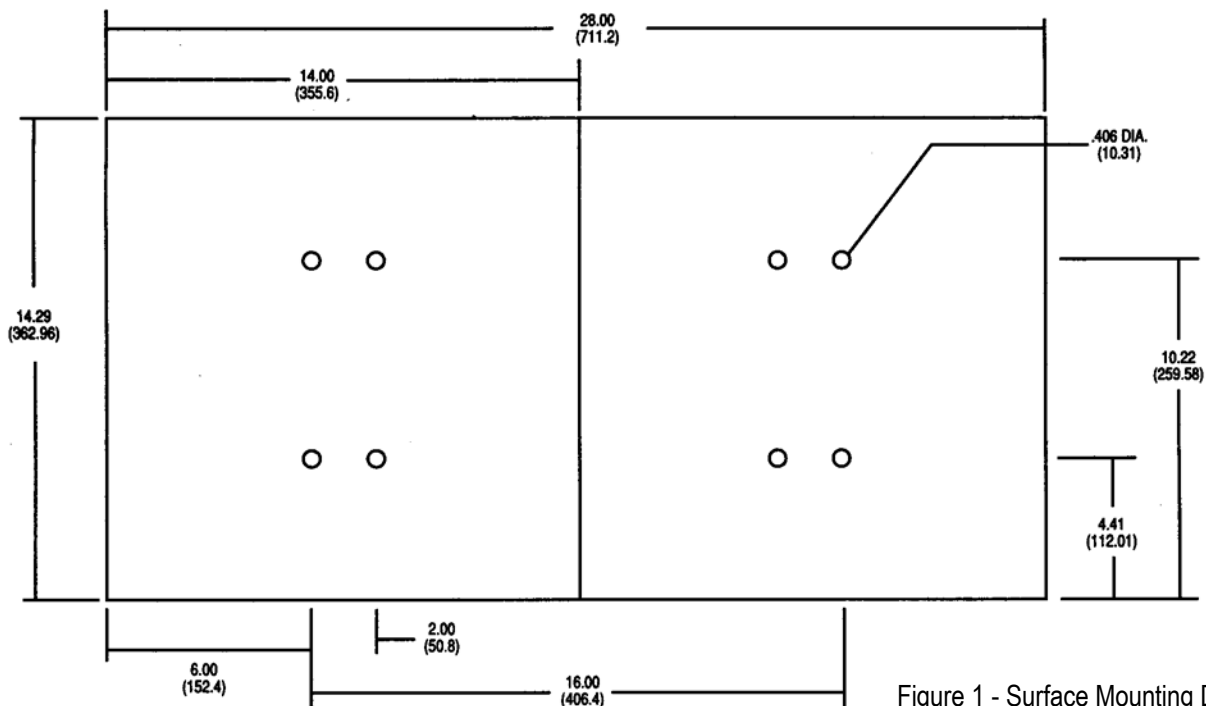

Figure 1 - Surface Mounting Dimensions
- Using the dimensions shown in Figure 1 mark location of one column of 2 mounting holes on wall over stud.
Using the dimensions shown in Figure 1 mark location of one column of 2 mounting holes on wall over each stud.
- Using the dimensions shown in Figure 1 mark the wall with the locations of two horizontal mounting channels.